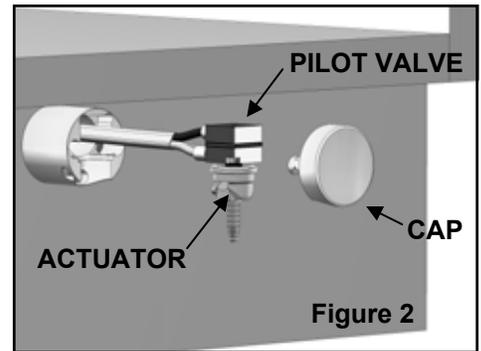

Figure 2
**STEP #4** - As in figure 2 position the actuator and pilot valve simultaneously into the housing. Be sure the black plastic part of the actuator is vertically aligned with the brass button of the valve. Install the cap and tighten the set screws in the housing with the 5/64" hex wrench provided.